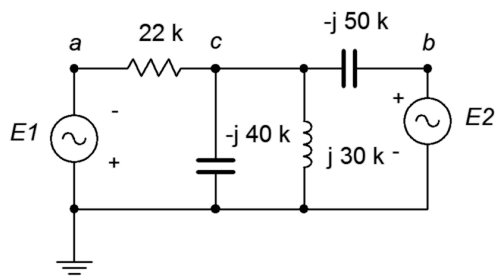

Figure 6.7
13. Given the circuit in Figure 6.7, use mesh analysis to determine v_c . $E1 = 10\angle -180^\circ$, $E2 = 25\angle 0^\circ$.
14. Use mesh analysis to find the current through the $22\text{ k}\Omega$ resistor in the circuit of Figure 6.7. $E1 = 24\angle 0^\circ$, $E2 = 36\angle 0^\circ$.
51. Use nodal analysis to find v_{cb} in the circuit of Figure 6.7. $E1 = 10\angle -180^\circ$, $E2 = 25\angle 0^\circ$.